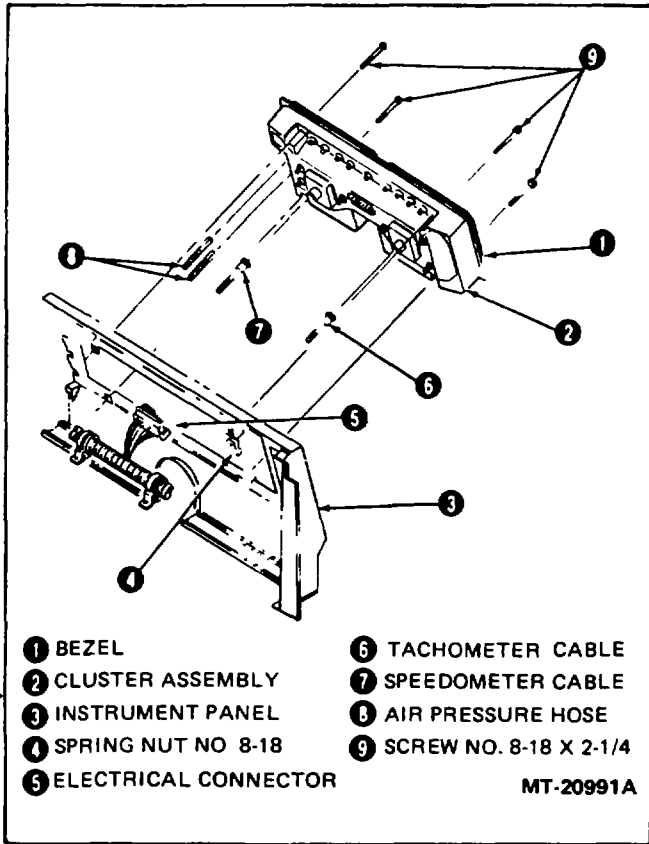

Figure 2 - Removing Instrument Cluster
2. Tilt or lift out cluster assembly from instrument panel (Figure 2).